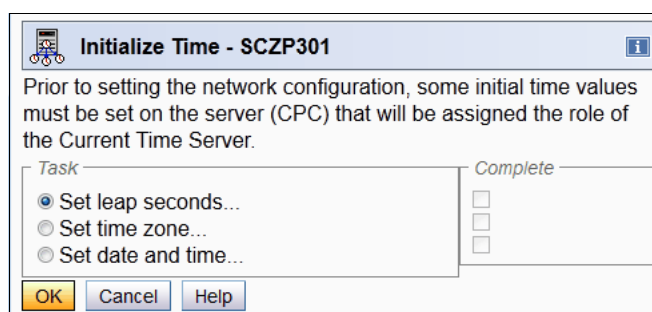

Figure 6-40 Initialize Time - Set leap seconds
1. Select the **Set leap seconds** radio button and click **OK**. The Adjust Leap Second Offset displays (Figure 6-40).